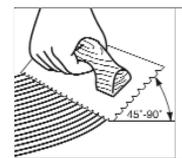

Figure 4
- Hold the trowel at a minimum 45° angle (Figure 4) firmly against the subfloor to obtain a 40-60 ft.2 (4-5.5 m2) per gallon spread rate.